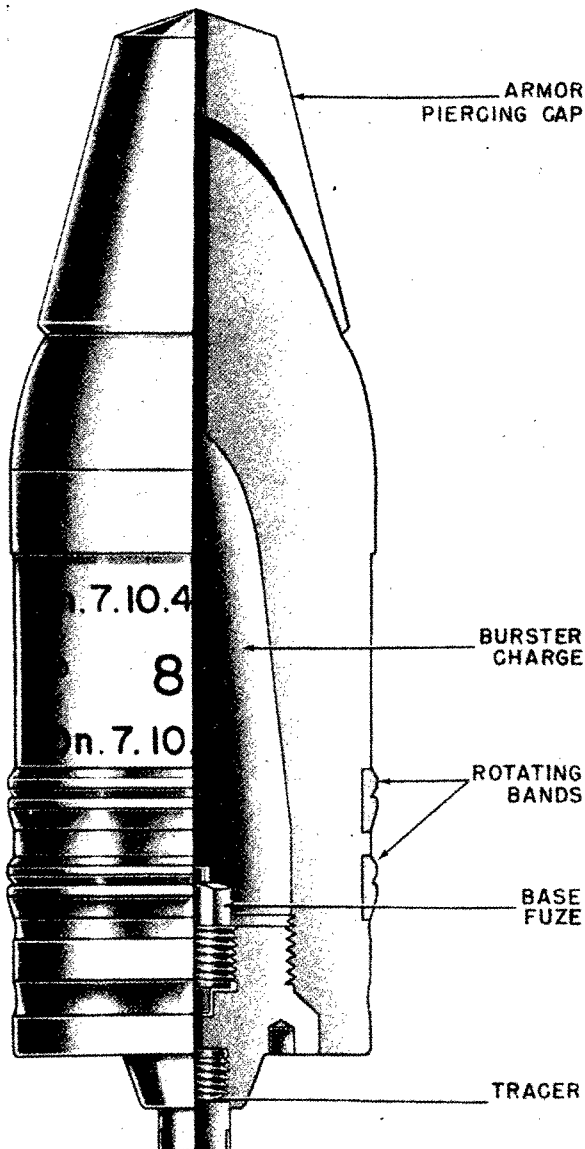

Figure 481—A. P. Projectile for 128-mm A. A. Gun, 12.8-cm Pzgr. FES
**GERMAN NOMENCLATURE:** 12.8-cm Pzgr. FES. (See fig. 481.)